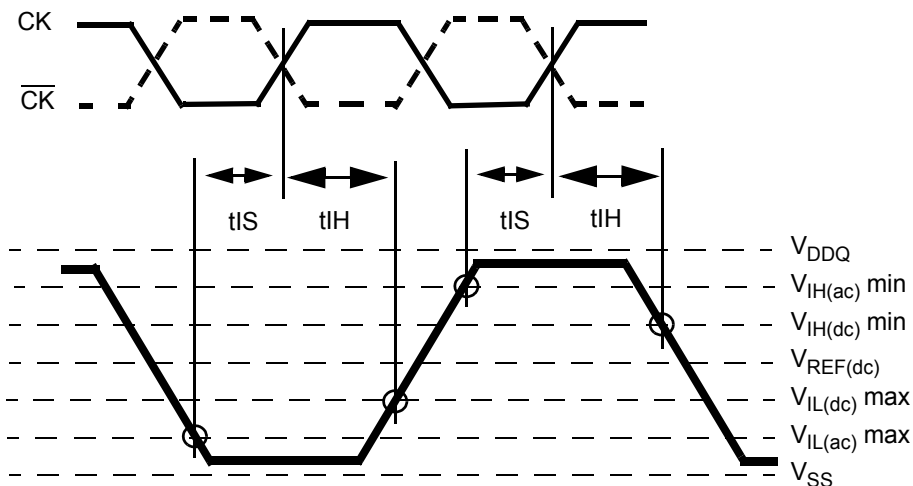

Figure 15 - Differential input waveform timing -  $t_{IS}$  and  $t_{IH}$
19. Input waveform timing is referenced from the input signal crossing at the  $V_{IH(ac)}$  level for a rising signal and  $V_{IL(ac)}$  for a falling signal applied to the device under test. See Figure 15.
20. Input waveform timing is referenced from the input signal crossing at the  $V_{IL(dc)}$  level for a rising signal and  $V_{IH(dc)}$  for a falling signal applied to the device under test. See Figure 15.